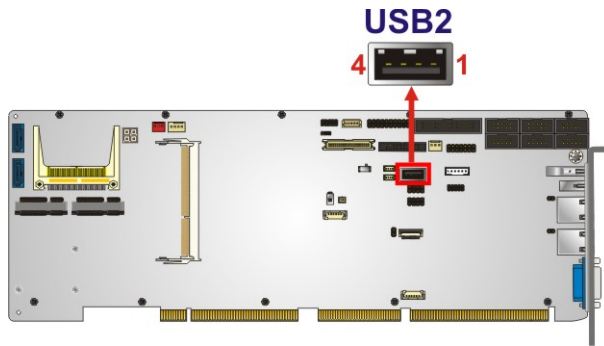

Figure 3-30: USB 2.0 Connector (Type A) Location
- CN Location:** See **Figure 3-30**